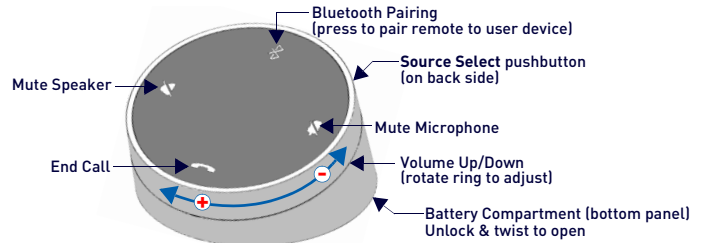

FIG. 10 ACENDO VIBE REMOTE CONTROL
The ACV-5100 includes a wireless remote control (FIG. 10):
1. Press and hold both the **Source Select** and **Bluetooth Pairing** buttons on the remote control for 5 seconds (see FIG. 10). All LEDs on the remote control should start blinking or remain blinking (once per second).